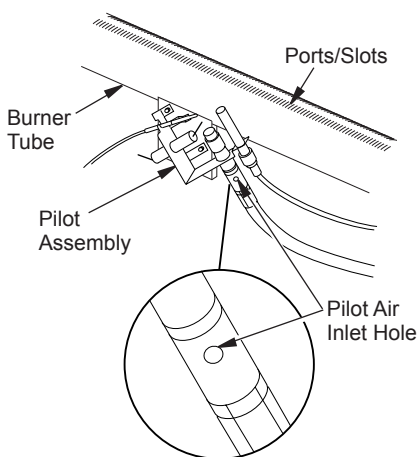

Figure 41 - Pilot Inlet Air Hole
3. Blow air through the ports/slots and holes in the burner (see Figure 41).
Clean the pilot assembly also. A yellow tip on the pilot flame indicates dust and dirt in the pilot assembly. There is a small pilot air inlet hole about 2" from where the pilot flame comes out of the pilot assembly (see Figure 41). With the unit off, lightly blow air through the air inlet hole. You may blow through a drinking straw if compressed air is not available.